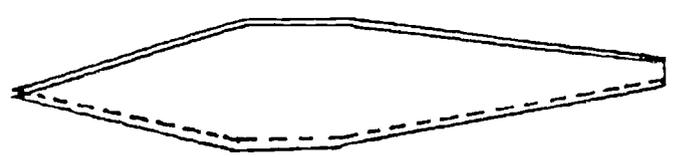

figure 2
2. Put template on top of 10 sheets of tissue each at least nine (9) feet long. Cut around the template to make the ten gores needed.
4. Slide the top gore #1 about a half inch to the side of gore #2 as pictured in figure 2.